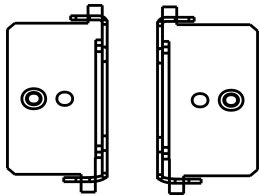

Figure 1: Retaining Clips
Step 2. Insert the **CNK100** into the table. Secure the **CNK100** with the provided retaining clips on the bottom of the table. (See figure 1). The **CNK100** remains flush or at exactly the same level as the tabletop when not in use.